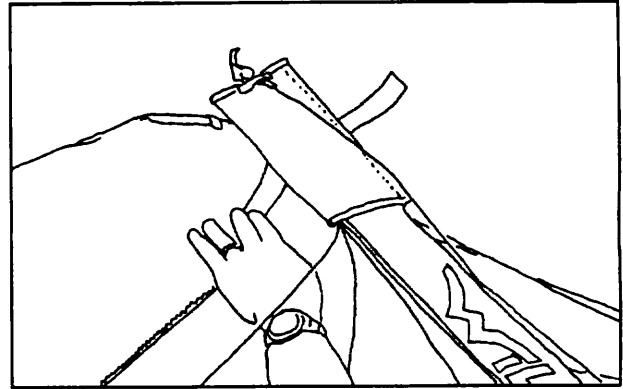

Figure 61
8) Lay the kingpost down on top of the sail along the keel, and attach the velcro on the kingpost top protector to the nose cone velcro on the sail to hold the kingpost in position. (Figure 61)